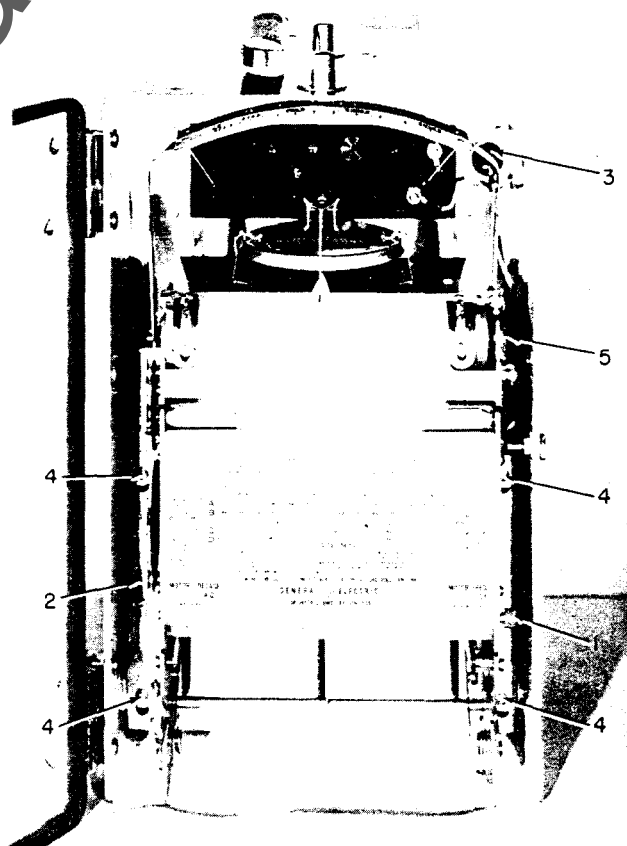

Fig. 8. Front view of recorder, door open; record roll and spools removed
1. Unscrew the knurled screw (1, Fig. 8) and pull out the change-gear plate.
In addition to providing a means for positioning the pen-and-pointer assembly on zero, the zero adjustor can also position the assembly at any desired point on the scale. This feature makes it possible to change, for example, a zero-left recorder (one having a linear scale distribution) to a zero-center recorder by simply rotating the zero-adjusting screw (2, Fig. 8). Since this does not change the full-scale value of the recorder, the electrical value from the "new" zero to each end of the scale will be half of the original full-scale value. For example, a 0-1 ma. full-scale recorder would be changed to a 0.5-0-0.5 ma. recorder.
REMOVING THE CHART CARRIAGE (See Fig. 8)